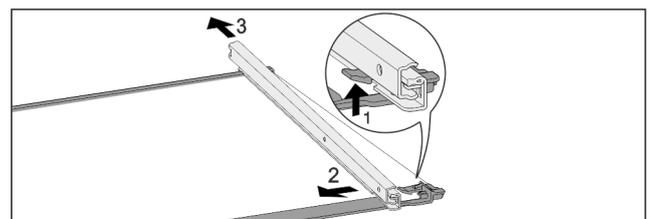

Fig. 124 Glass shelf with rails
- ▶ Push up front click-in hooks. Fig. 124 (1)
- ▶ Move the pull-out rails to the side Fig. 124 (2) and to the rear Fig. 124 (3).